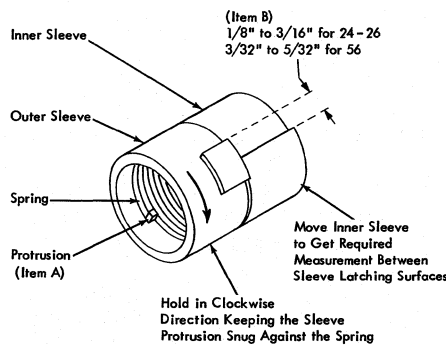

Figure 43. Punch Clutch Adjustment
4. Move the outer sleeve in a clockwise direction against the spring (Figure 43). This sleeve can move very easily in a counter clockwise direction, and give a false indication of the latching surface distances. Therefore, keep the outer sleeve protrusion snug against the end of the spring in a clockwise direction.
Position the inner sleeve latching surface behind the outer sleeve latching surface as shown in Figure 43 below and keep the clamping screw accessible. Punch-clutch lockup is possible if the $\frac{3}{16}$ " is exceeded. Verifier outer sleeve damage is possible if the $\frac{5}{32}$ " is exceeded. Scribe a line on the outer sleeve to indicate the measured overlap. Future production will include an adjustment mark.
5. To prevent binds between the inner and outer sleeves, the clamping collar and inner sleeve must be pushed inward toward the machine base as the clamp is tightened. Now, tighten the clamping screw completely. Don't forget to keep the outer sleeve *snug against the end of the spring* (Figure 43).